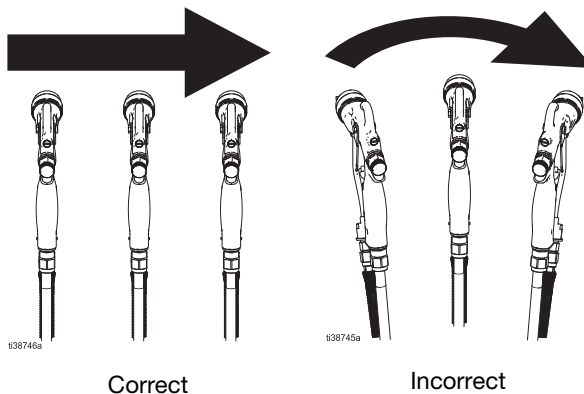

FIG. 24: Spray techniques
3. Engage the trigger (9).
4. Spray smooth, even, and parallel strokes. Overlap each stroke by 50% for even coverage. **Do not arc the strokes.** Arcing causes uneven coverage. See FIG. 24.